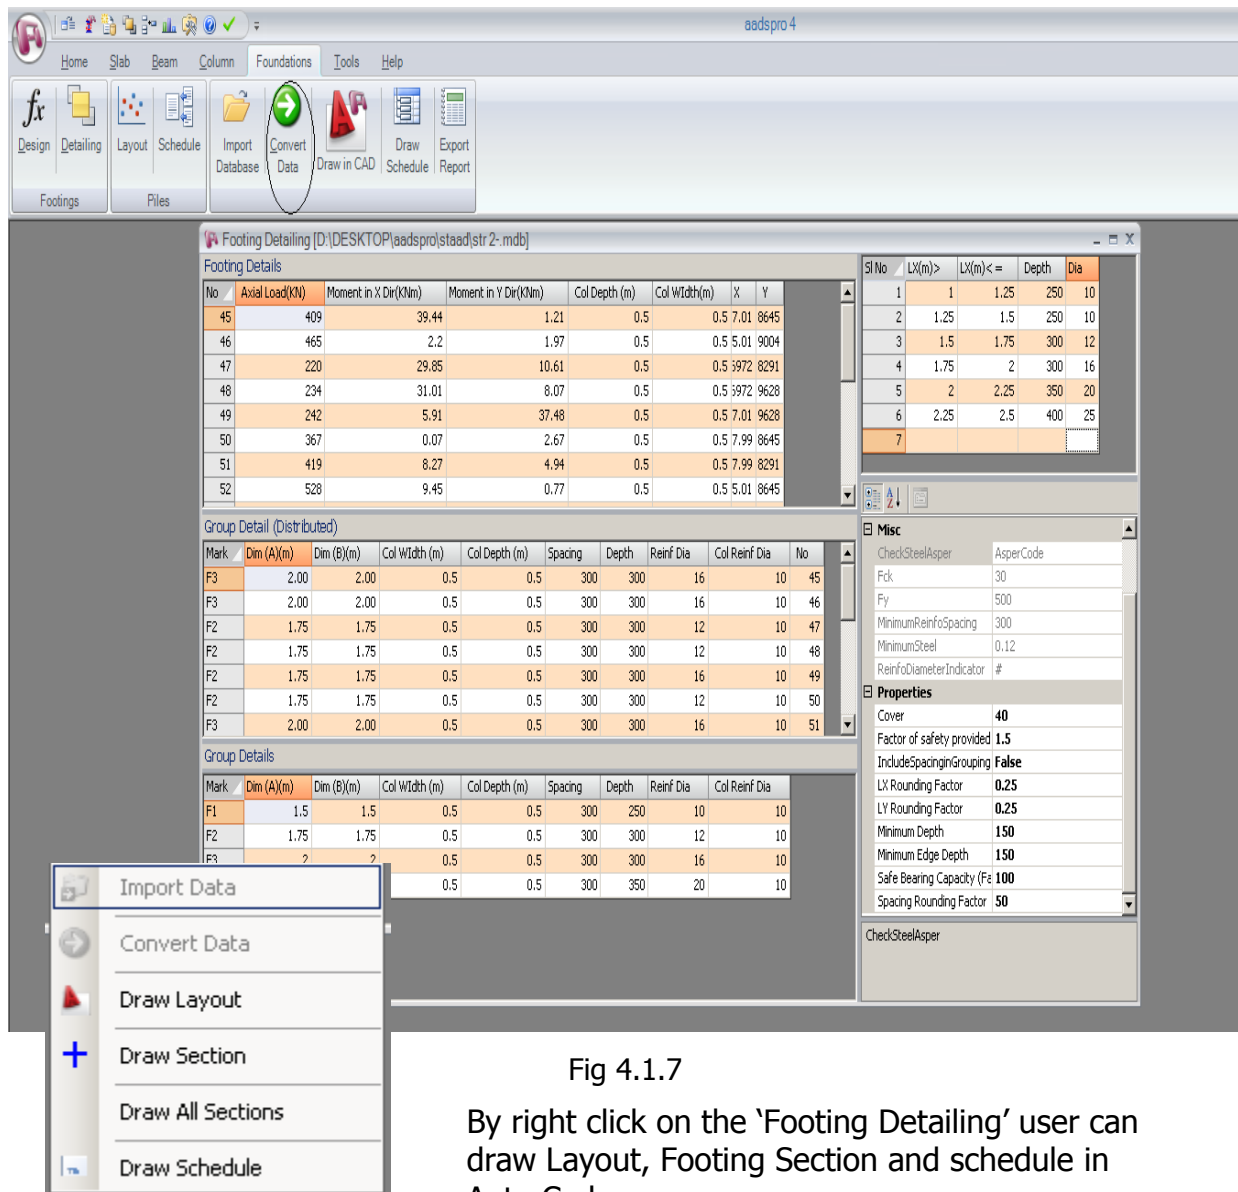

Fig 4.1.7
3. Click on the Convert Data from tool bar (fig 4.1.7)